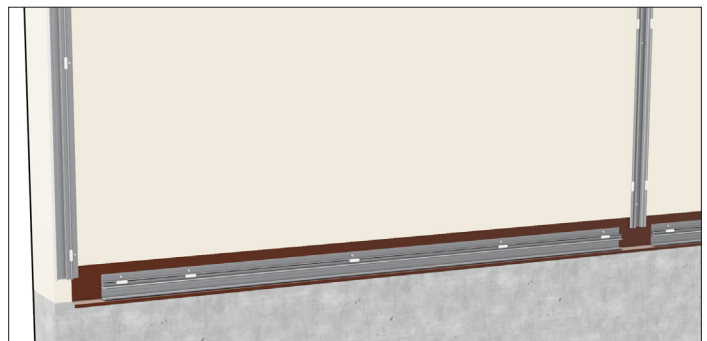

Figure 19.3
14. Install a small dot of the supplied external silicone into the panel platforms of the back plates at 16" intervals. (Figure 19.3)